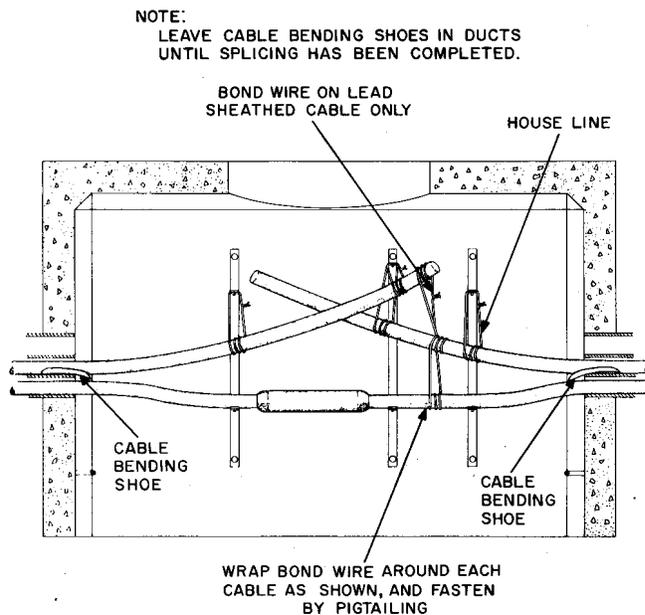

Fig. 37—Temporary Tying and Bonding of Lead Sheath Cable
15.01 To prevent damage to the cable ends in the manhole and at the duct, tie them to the cable racks as shown in Fig. 37. Any cable bending required should be done carefully to avoid damage to the sheath or to the coaxial tubes. Inside bend radii must be at least 21 inches. The cable must not rest against sharp edges since the cable will eventually sag over the edges causing kinks that may damage the coaxial tubes. Leave cable bending shoes in the ducts until splicing has been completed.
16.01 Bond lead-sheathed cable, as soon as it is placed, to an existing cable other than one in which there is an insulating joint. Steel construction wire provides a good bond when used as illustrated in Fig. 37.